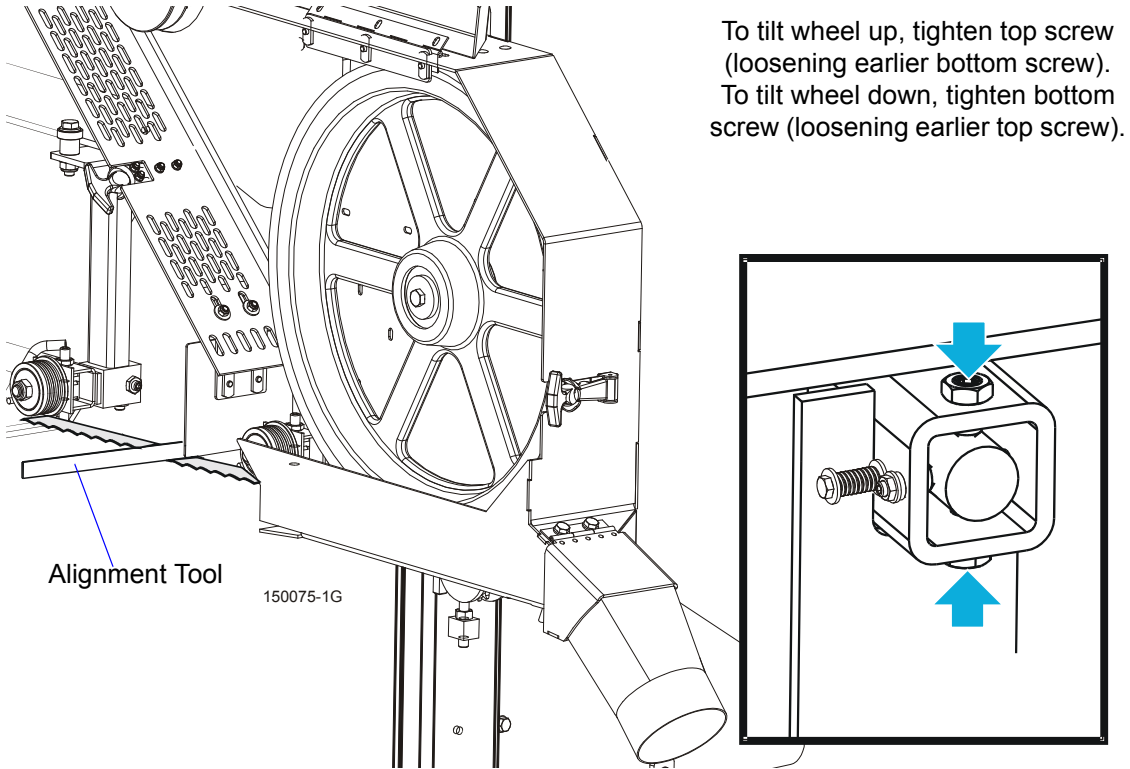

FIG. 3-6
- Remove the tool from the blade and reattach it near the inner blade guide. If the measurements at the front and rear ends of the tool differ by more than 1.5 mm, adjust the vertical tilt of the drive-side blade wheel. See Figure 3-6.
**See Figure 3-6.** Use screws shown below to adjust vertical tilt of the drive-side blade wheel . To tilt the drive-side blade wheel down, loosen the top adjustment screw. Next loosen the nut on the bottom adjustment screw and tighten the bottom screw. Tighten the top and bottom nuts.